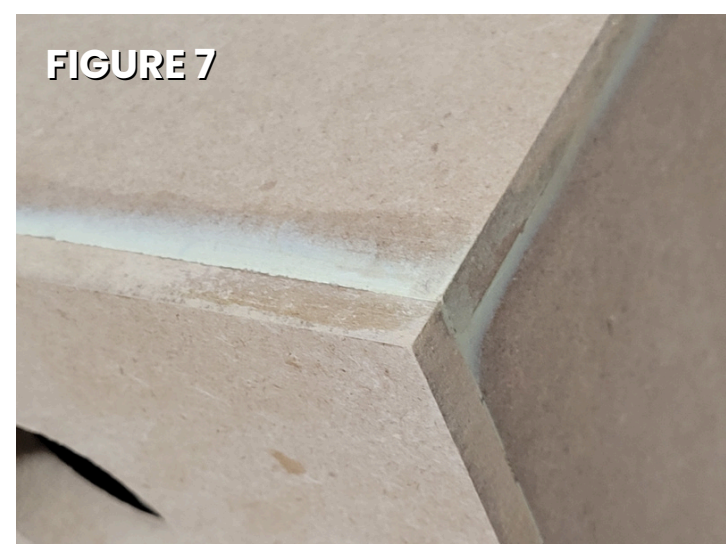

FIGURE 7
7. After the cabinet is fully assembled and the glue is fully cured, sand the cabinet flat. The front and back panels are intentionally designed with a 1 mm overhang to facilitate easier flush sanding. Fill any larger gaps with wood filler or Bondo and sand all surfaces flat again (*figure 7*).